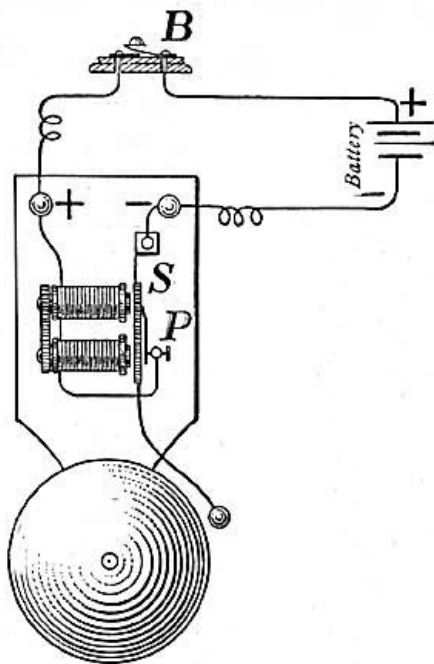

FIG. 215.—The electric bell.
**297. The Electric Bell.** The ringing of the electric bell is due to the attractive power of an electromagnet. By the pushing of a button (Fig. 215) connection is made with a battery, and current flows through the wire wound on the iron spools, and further to the screw *P* which presses against the soft iron strip or armature *S*; and from *S* the current flows back to the battery. As soon as the current flows, the coils become magnetic and attract the soft iron armature, drawing it forward and causing the clapper to strike the bell. In this position, *S* no longer touches the screw *P*, and hence there is no complete path for the electricity, and the current ceases. But the attractive, magnetic power of the coils stops as soon as the current ceases; hence there is nothing to hold the armature down, and it flies back to its former position. In doing this, however, the armature makes contact at *P* through the spring, and the current flows once more; as a result the coils again